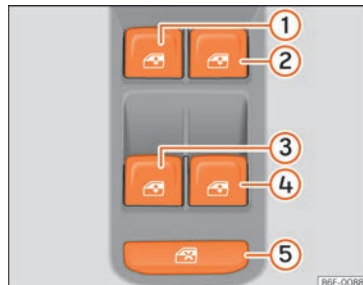

Fig. 99 Detail of the driver's door: window controls.
The safety control »» Fig. 99 ⑤ on the driver door can be used to disable the electric window buttons on the rear doors.